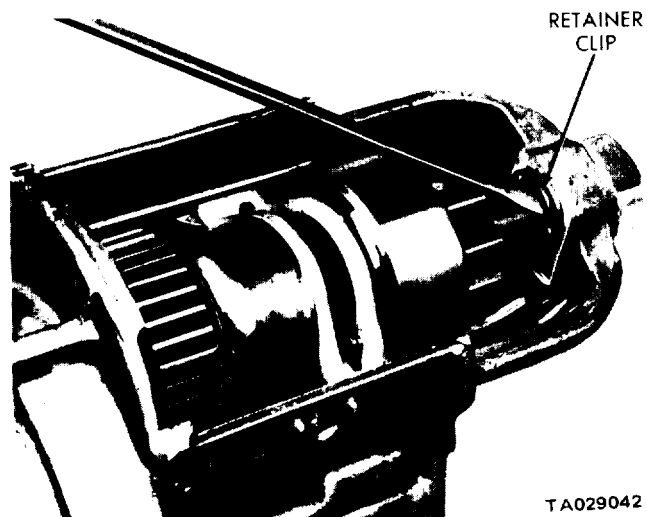

Figure 15-15. Removing Pinion-Shaft Retainer Clip.
- o. Remove the pinion-shaft retainer clip (figure 15-15).
- (7) Install the pinion-shaft retainer clip (figure 15-15).
(8) Put the starter-solenoid return spring into the bore of the movable core. Inspect the condition of the starter solenoid switch contacting washer. If the top of the washer is burned from arcing, disassemble the contact switch plunger assembly and reverse the washer.
(9) Install the solenoid contact plunger assembly into the solenoid. Make sure the contact spring is positioned on the shaft of the solenoid contact plunger assembly.
(10) Assemble the battery terminal stud in the brush holder. Inspect the condition of the contacts in the brush-holder plate. If they are burned, replace the brush holder with brushes and contacts as an assembly.
(11) Position the seal on the brush-holder plate.